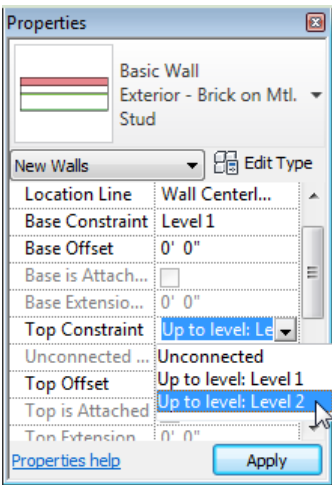

Figure 3-30 Setting the **Top Constraint** parameter using the **Properties** palette
- d. Modify **Top Constraint- Up to level: Level 2** and **Location Line - Wall Centerline** as wall properties using the **Properties** palette, refer to Figure 3-30.
- 1. In the **Properties** palette, ensure that the **Location Line** parameter has **Wall Centerline** as the default value. Click on the column adjacent to the **Top Constraint** instance parameter; a drop-down list is displayed. Select **Up to level: Level 2** from this drop-down list, and choose the **Apply** button, as shown in Figure 3-30.